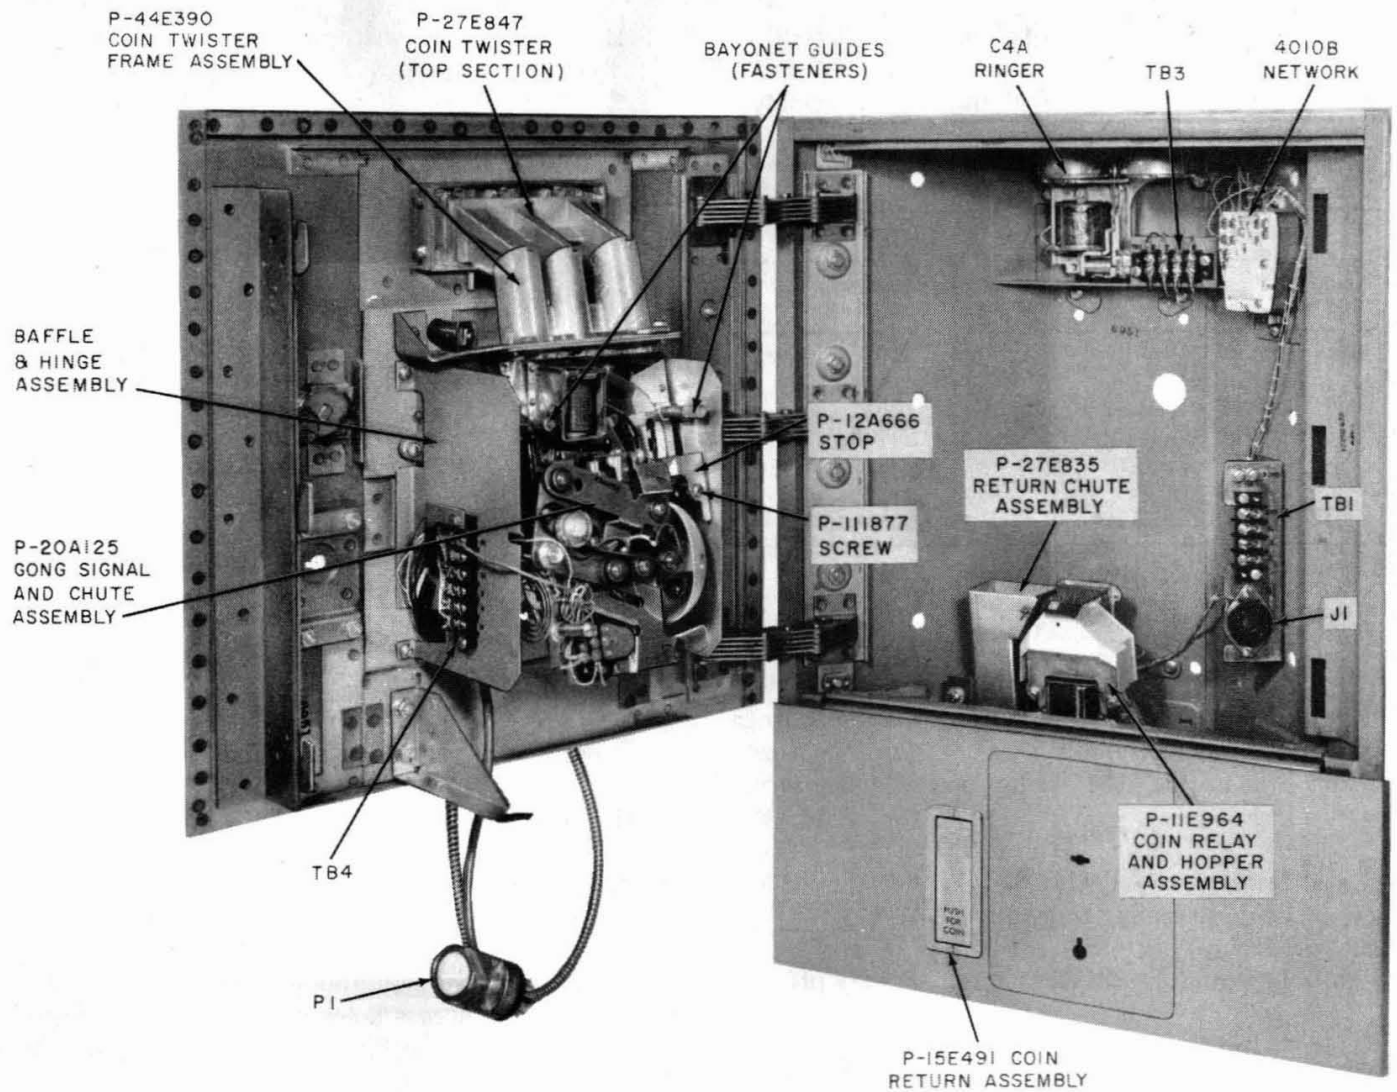

Fig. 5—235G or 1235G Coin Collector—Interior
Note: Do not open door fully until plug (P1) is disconnected (Fig. 5).
- (1) Loosen screws in middle of twister assembly (Fig. 5).
- (2) Lift P-27E847 coin twister (top section) up and out.
- (3) Remove screws and nuts holding P-44E390 coin twister frame assembly (Fig. 5).
- (4) Lift frame assembly up and off.
- (5) Install, using reverse procedure.
- (2) Remove P-111877 screw and P-12A666 stop (Fig. 5)
- (4) Loosen two P-11E183 bayonet guides on chute assembly (Fig. 5).
- (5) Lift gong signal and chute assembly off.
- (6) Install, using reverse procedure.
2.05 To remove baffle and hinge assembly (Fig. 5):